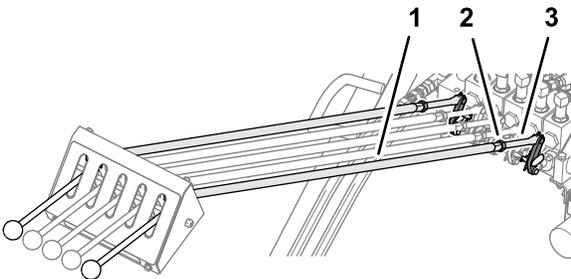

Figure 33
7. Tighten the nut (7/16 inch) on the control rod and link; refer to (Figure 33).